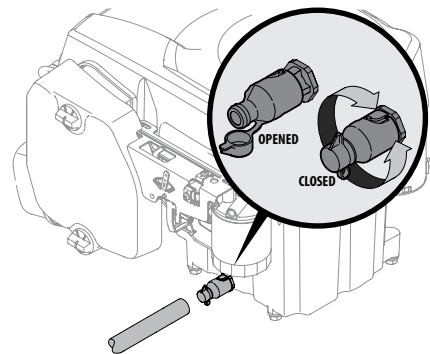

Figure 4-5
3. Open the protective cap on the end of the oil drain valve to expose the drain port. See inset of Figure 4-5.
6. Slightly push in on the oil drain valve and rotate counter-clockwise to open and allow the flow of oil. See Figure 4-5.